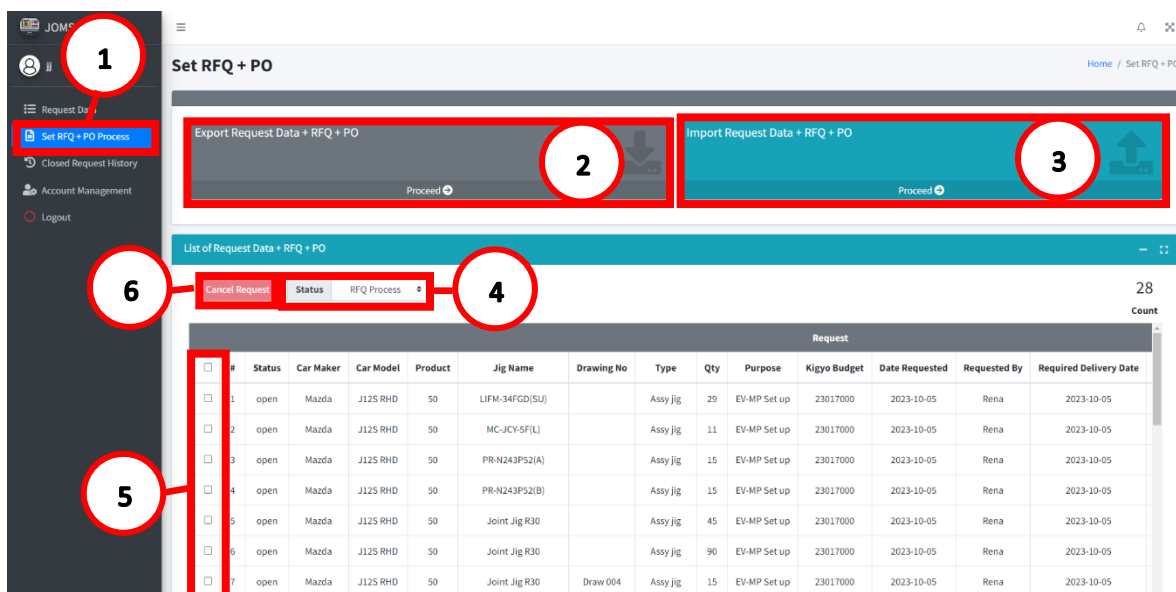

Figure 2.3
1. Click **Set RFQ + PO Process** button (See Figure 2.3).
2. Click **Proceed** in Export Request Data + RFQ + PO (See Figure 2.3).
3. Click **Proceed** in Import Request Data + RFQ + PO (See Figure 2.3).
4. Filter the table to **RFQ Process, Initial RQF, Complete RFQ and Cancelled** (See Figure 2.3).
5. Select you want to **Cancel** (See Figure 2.3).
6. Click **Cancel Request** (See Figure 2.3).
- Click **Export Open Status** to export with **Initial RFQ** data (See Figure 2.3).
- Click **Export Open Status** to export with **Complete RFQ** data (See Figure 2.3).
- Click **Export Closed Status** to export with **Complete RFQ and PO** data (See Figure 2.3).